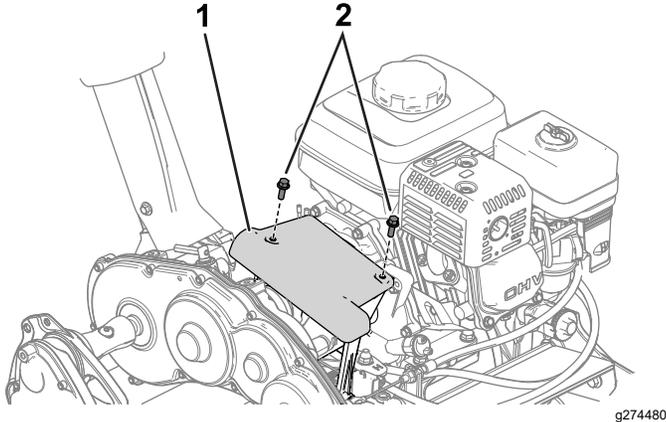

Figure 33
1. Access the friction disc and pressure plate by removing the clutch cover (Figure 33).